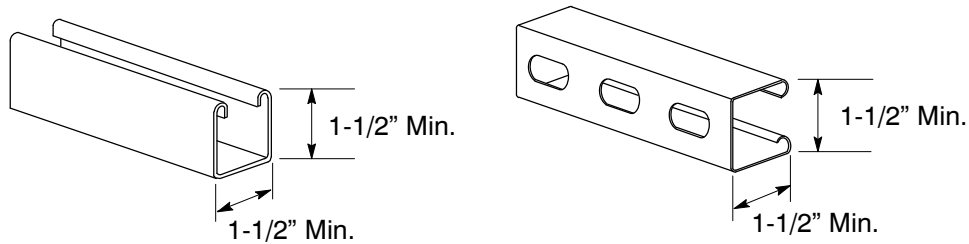

Figure 10
- (1) Structure: All structures must be a minimum length of 48 inches. For structures up to 72 inches long, the minimum combined height of the boards, panel, or struts must be 36 inches. For structures up to 96 inches long, the minimum combined height of the boards, panel, or struts must be 42 inches. For structures with lengths greater than 96 inches, use additional posts. The top of the structure must not exceed 84 inches high from the ground. There must be a minimum of 6 inches of clearance between the ground and all equipment, panels, boards, or struts.
- (2) Boards: Place side by side.
- (3) Panel: One solid sheet.
- (4) Unistrut: At a minimum, two struts are needed to support each piece of service and metering equipment. It is recommended that one strut be attached towards the top and one strut be attached towards the bottom of the equipment. Add struts for additional equipment with different length dimensions. Use struts with or without boards or panels.
- (a) Strut channel dimensions must be a minimum 1-1/2 inch x 1-1/2 inch. See Figure 10 on Page 8.
- (5) Posts: Use a minimum of two posts to support panel-type construction. Add more posts if the construction exceeds the structural dimensions listed in Note 1B(1) on Page 1. If applicable, a PG&E-approved, customer-owned pole can be used as one of the posts. The customer-owned pole must be installed in accordance with Document 025055 and the panel board must be attached to the poles as shown in Figures 8 on Page 5 and Figure 10 on Page 8.